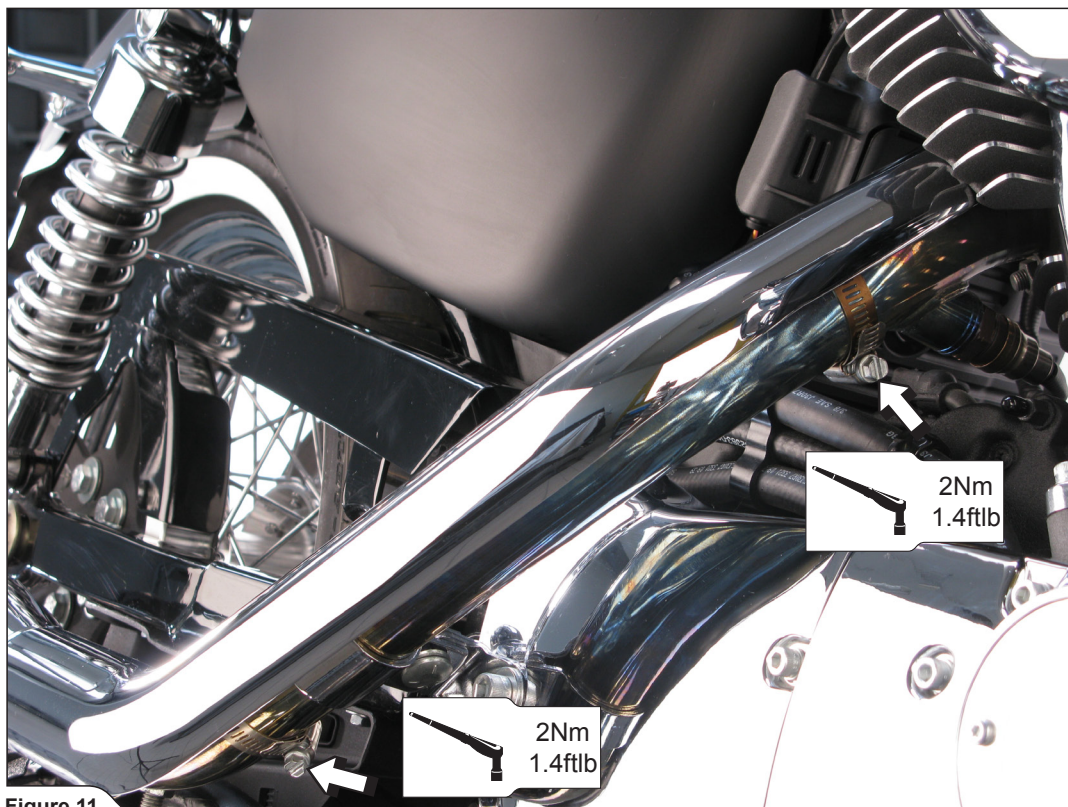

Figure 11
5. Assemble stock heat shields as shown. Align the heat shields in respect to the header tubes and tighten the tape clamps (Figure 11, 12).